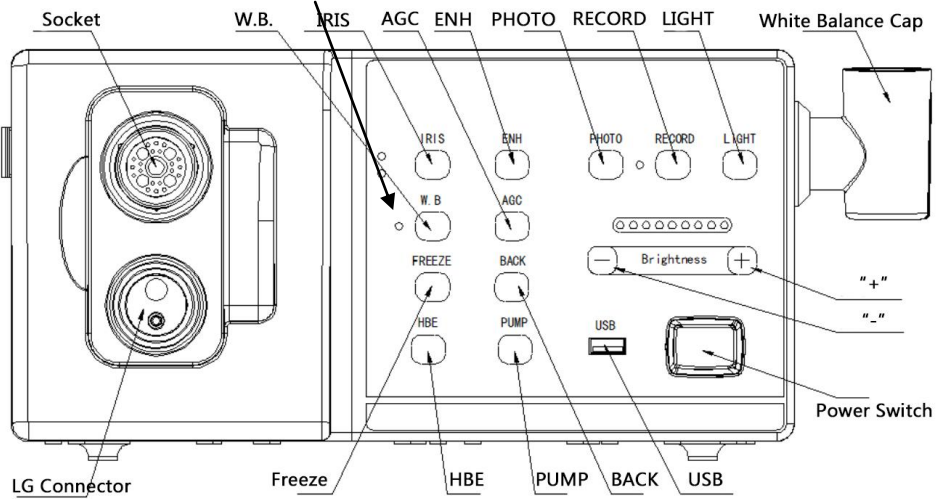

Figure 5.3
4. Press and hold the white balance button on the front panel for about one second (see Figure 5.3). The OSD will indicate the finish of the adjustment.